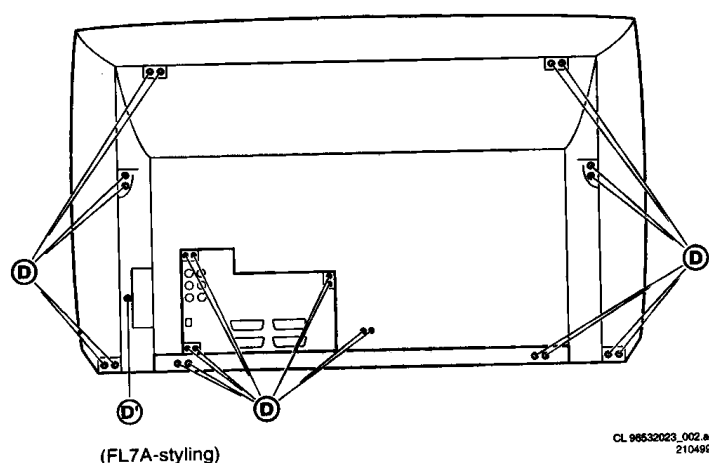

Figure 4-6
1. Remove the fixation screws (D) of the rear cover (see figure 4-6). Notice also the screw D' for the side-I/O.